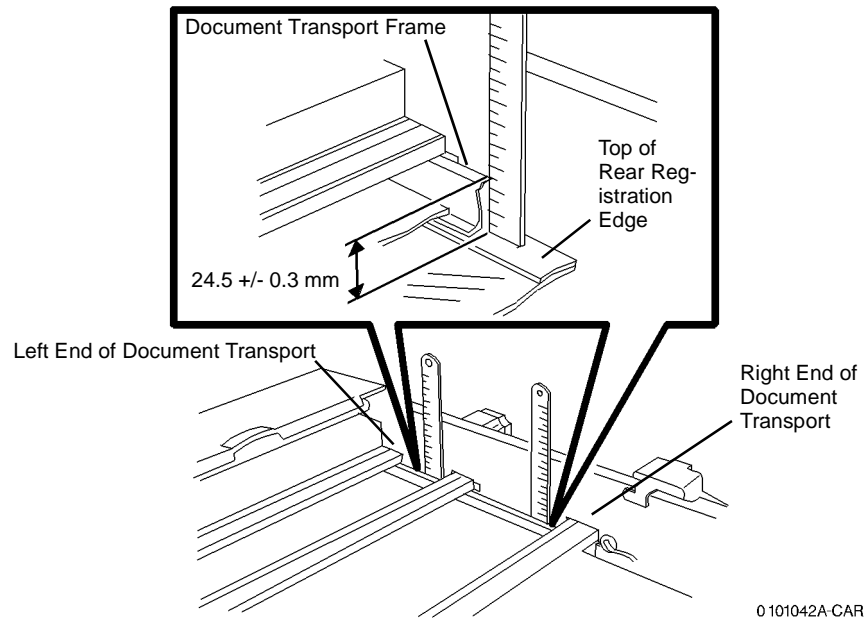

Figure 1 Checking Document Transport Height
3. Check Document Transport Height (Figure 1).